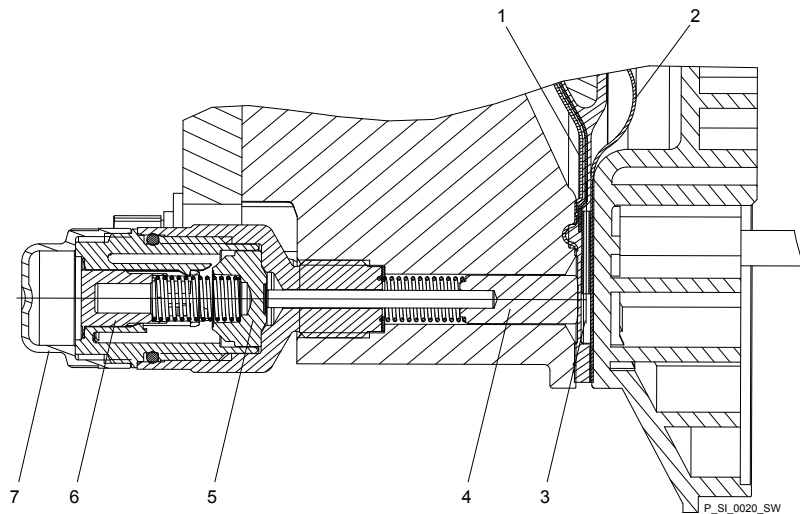

Fig. 34: Section through the Sigma diaphragm rupture warning system ("Visual break indicator" version)
2. ➤ If the piston of the diaphragm rupture sensor - see Fig. 34, item 4 - should have become dirty or damp, clean both it and the hole in which it runs.